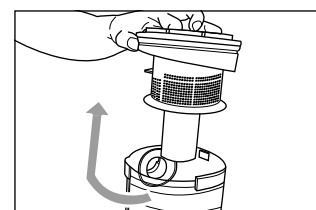

Fig. 11
- remove the complete filter by rotating it clockwise (Fig. 11).